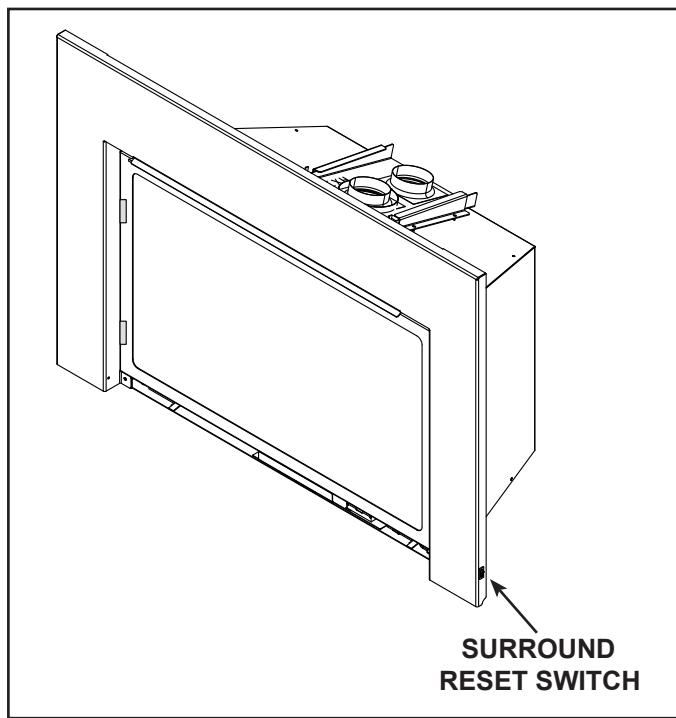

Figure 3.9 Surround Reset Switch
2. Toggle surround manual reset switch position to "OFF". See Figure 3.9. Check to make sure the ignition module switch is **NOT** in the "ON" position.
- Toggle surround manual reset switch position to "ON". See Figure 3.9. Check to make sure ignition module switch is in the "REMOTE" position.
- Toggle surround manual reset switch position to "ON". See Figure 3.9.
- Toggle surround manual reset switch position to "OFF". See Figure 3.9.
- Toggle the appliance reset switch to the off position . See Figure 3.9 for reset switch location.
- Wait five (5) minutes to allow possible accumulated gas to clear.